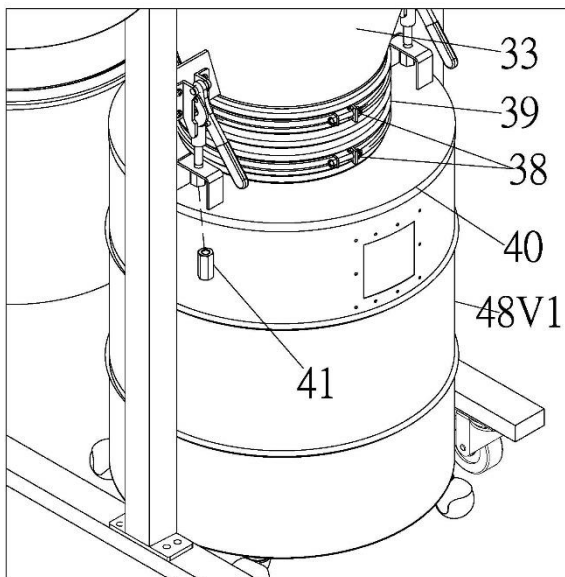

Fig. 8
11. Assemble and tighten Hose (NO.39) on Cone (NO.33) and Drum lid (NO.40) with Hose clamp (NO.38). See FIG. 8.
13. Pull down the Quick Lever, and then assemble Drum Lid (No.40) and Quick Lever with Nut (No.41). See FIG. 8.